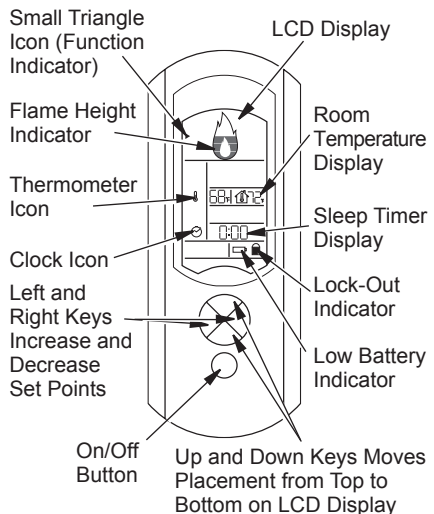

Figure 38 - Remote Control
- Press the up or down key until the small triangle is to the left of large flame icon at the top of LCD display (see Figure 38). Press the left or right key to set the desired flame height.
- Press the ON button on remote control (see Figure 38). Wait 5 seconds to send a command to appliance.
Press the up or down key until the small triangle is to the left of large flame icon at the top of LCD display (see Figure 38). Press the left or right key to set the desired flame height. Six flame levels are available from 1 (minimum) to 6 (maximum).
Press the up or down key until the small triangle is to the left of the thermometer icon (see Figure 38, page 21). Press the left or right key to set the desired room temperature.
Press the up or down key until the small triangle is to the left of the clock icon (see Figure 38, page 21). Press the left or right key to set the desired sleep time. Maximum sleep time is 90 minutes, in 15 minute increments. When desired time is set, press the up or down key to start the timer. When the desired time has elapsed, the appliance will automatically switch off.
To lock the remote control keys, press the On/Off key then immediately press the up key (see Figure 38, page 21). The lock-out function is active when the lock icon is lit. Repeat key sequence to unlock keys.
A battery icon will be displayed on the LCD display when batteries are low in the remote control (see Figure 38, page 21).